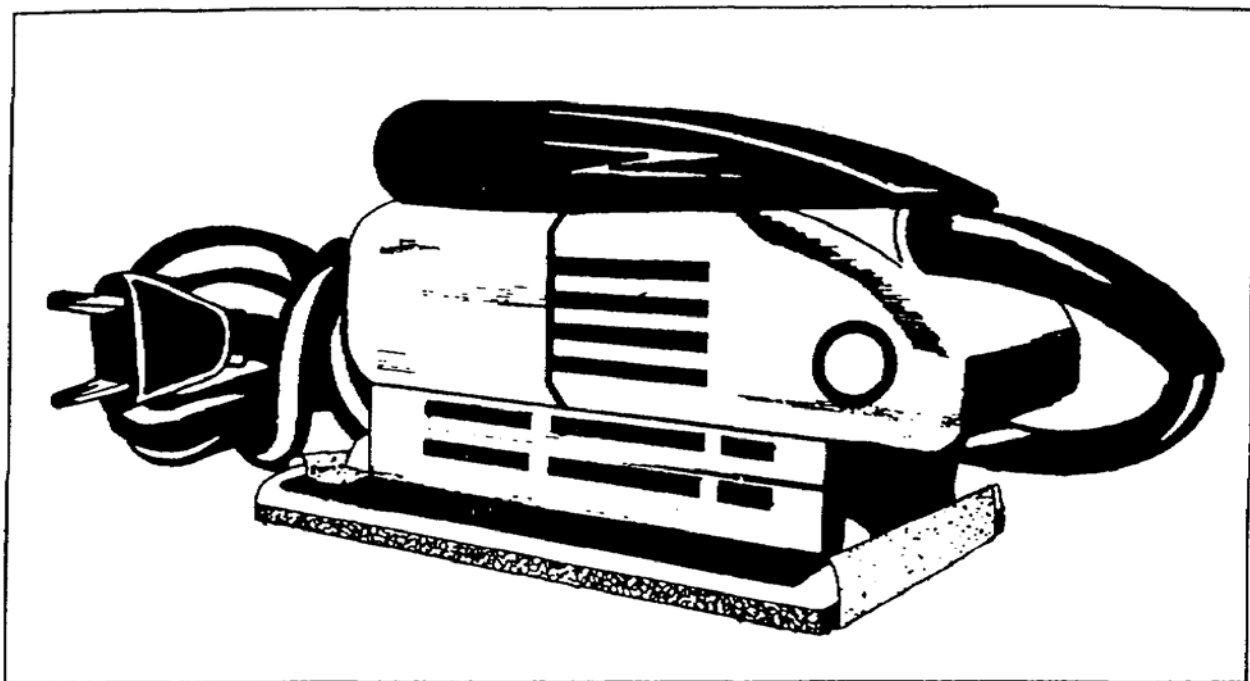

Figure 3-13. Orbital vibrator sander
(1) Portable vibrator sander. A portable vibrator sander (electric) is a small machine with an abrasive sheet clamped on it. An orbital vibrator sander, shown in Figure 3-13, is small enough for you to hold in one hand while sanding. This tool is excellent for removing old paint and varnish and for sanding drywall joints. No maintenance is necessary on this machine.